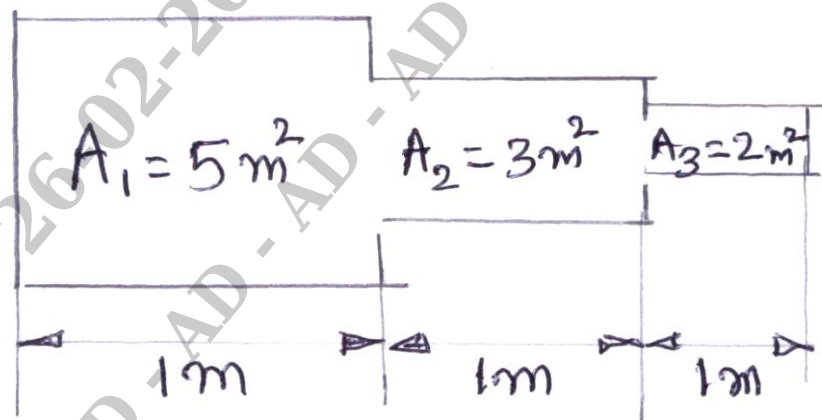

Fig. Q.8 (b)
- b. For the smooth pipe of variable c/s shown in fig. Q. 8 (b) . Determine the potential at the junction the velocities in each section of pipe and volumetric flow rate. The potential at the left end is $P_1 = 12 \text{ m}^2 / \text{s}$ and that at right end is $P_4 = 3 \text{ m}^2 / \text{s}$. Take $K_x = 1$